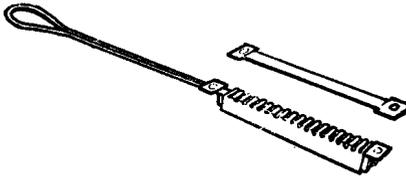

FIGURE 1. Drop Wire Clamp
2.01 The PS-6 drop wire clamp (Figure 1) consists of a stainless steel wedge, bail, shell, and plastic shim. The plastic shim makes removal easy and prevents installation damage.